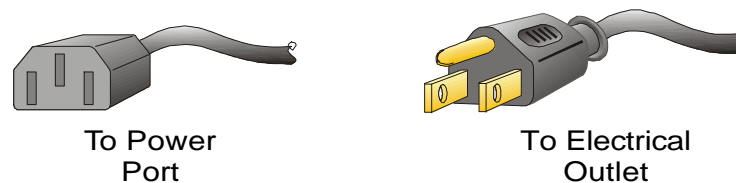

Figure 2.
- a. Connect AC cable to AC port and electrical outlet, refer to figure 2.